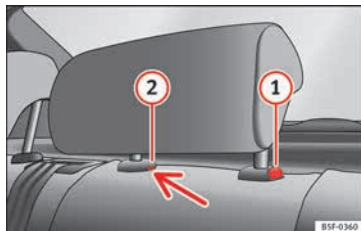

Fig. 145 Rear centre head restraint: release point.
- To set the head restraint lower down, press the  » **Fig. 145** button and move it downwards.
- Press the  » **Fig. 145** button while at the same time removing the head restraint from the backrest » .
- Insert a screwdriver in the  » **Fig. 145** position of the hole while at the same time removing the head restraint from the backrest » .